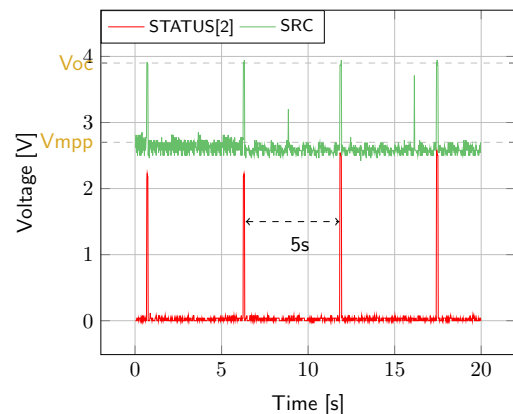

Figure 3: **SRC** and **STATUS[2]** while energy is extracted from **SRC** (**BATT** under **V_{ovch}**)
- **SRC**: Regulated at **V_{mpp}**, which is a voltage equal to the open-circuit voltage (**V_{oc}**) times the MPP ratio defined in Table 4. **V_{src}** equals **V_{oc}** during MPP evaluation (see Figure 3). Note that **V_{src}** must be higher than 380 mV to coldstart.
- **STATUS[2]**: Asserted each time the AEM10941 performs a MPP evaluation (see Figure 3).